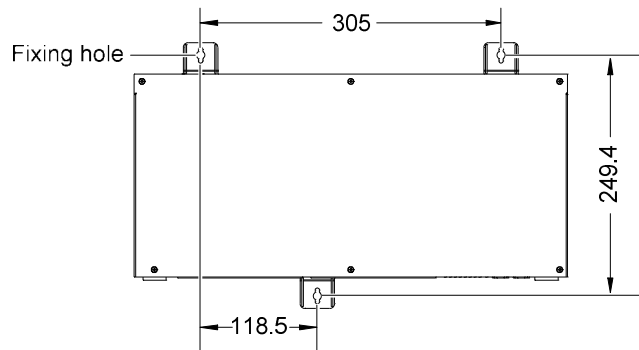

Figure 2-2 Hole dimensions (unit: mm)
2. Use a drill (aiguille:  $\Phi 6$ ) to drill three holes (depth: 70mm, max. error: 1.3mm) on the wall according to the dimensions in Figure 2-2 and knock three plastic expansion pipes into the holes.
3. Put the monitoring equipment in the position, with connection terminals downward, and wrench self-tapping screws into the plastic expansion pipes through the fixing holes (see Figure 2-2) of the wall brackets to fix the monitoring equipment on the wall.